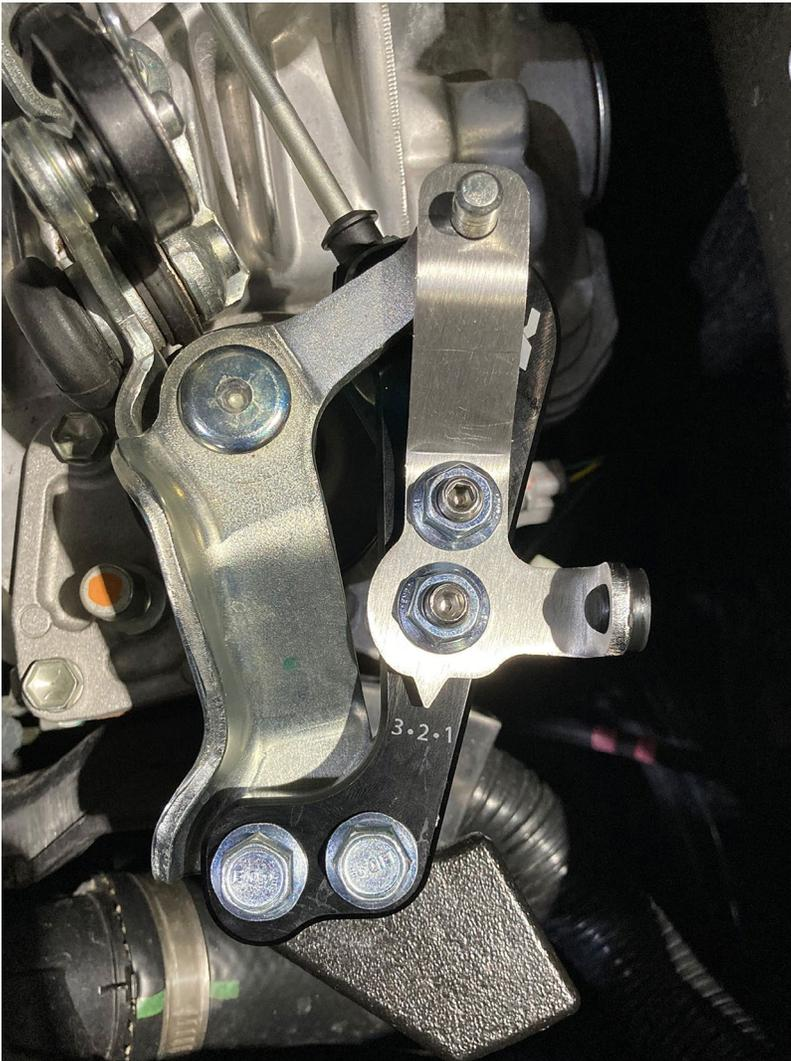

Figure 17
12. Thread M8 flange nuts onto set screws. Hand tighten and then back off 1/4 turn. (Fig 17)